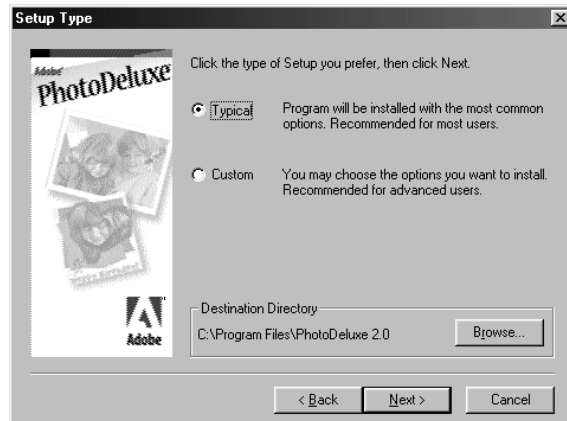

Figure 16: Installing Adobe PhotoDeluxe 2.0
7. In the next screen, click on 'Next'. A screen as in Figure 16 is displayed.